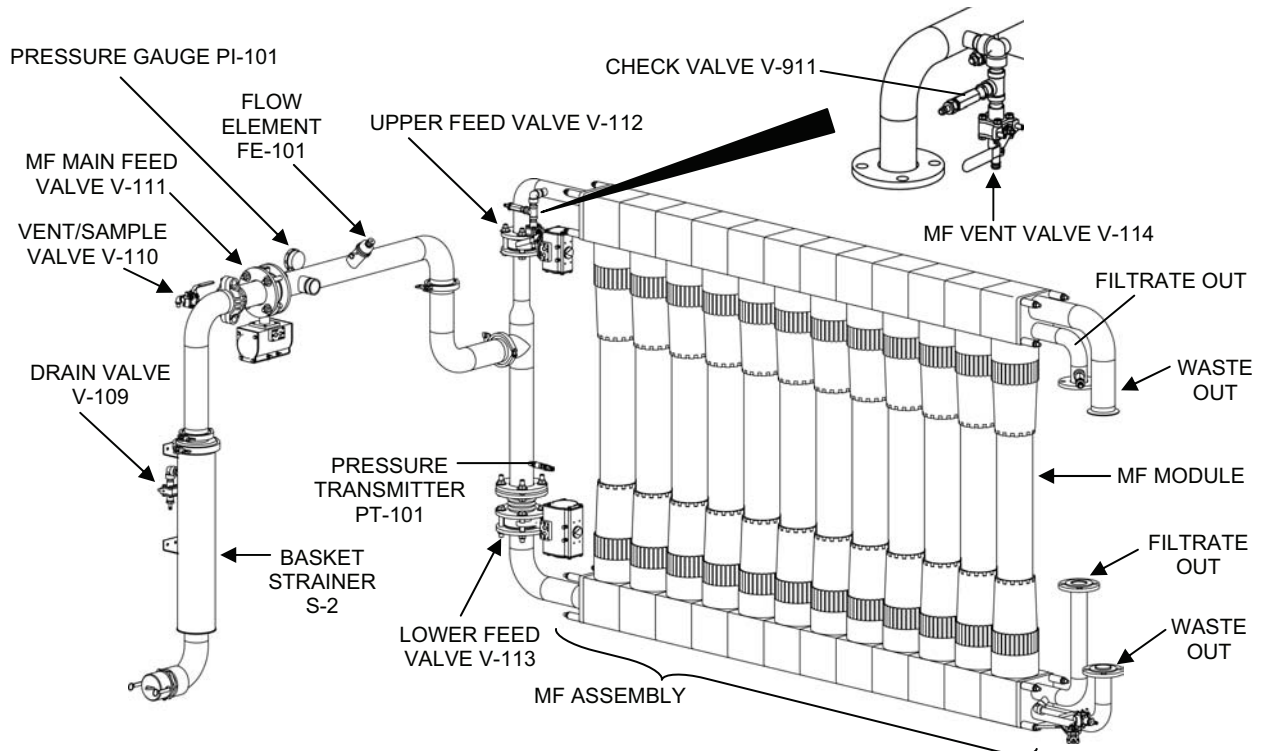

Figure 9. MF System: Strainer S-2 to MF Modules.
- **Two 3-in., 10-ft. long discharge hose.** Connect the MF Feed Pump P-3 discharge to the TWPS skid connection at Basket Strainer S-2 (see Figure 9 for Basket Strainer S-2).
MF System: Strainer S-2 to MF Modules (see Figure 9)
- **Pressure Gauge PI-101.** Measures pressure of the MF feed supplied to the micro-filter (MF) assembly. The pressure indication is for operator reference.
- **Flow Element FE-101 and Flow Transmitter FT-101.** (FT-101 is not shown in Figure 9. It is located in the instrument/solenoid panel box shown in Figure 23). FE-101 and FT-101 measure the MF flow (feed flow to the MF assembly when filtering, backwash flow to the MF assembly during backwash). This flow is displayed at the operator control panel (OCP).
- **Micro-Filtration (MF) Assembly.** Consists of 12 parallel filter modules, MF-1 through MF-12, that remove suspended solids and microorganisms from the MF feed water. Each filter module contains a filter element that is composed of a bundle of hollow, porous fibers. MF feed water enters the MF assembly, passes through the porous wall of each fiber, and exits the hollow core of each fiber as filtrate (filtered MF feed water). The suspended solids and microorganisms that accumulate on the fibers are removed from the fibers during regular automatic backwashes.
- **Pressure Transmitter PT-102.** Measures filtrate pressure. The difference between the feed pressure measured by PT-101 (Figure 9) and the filtrate pressure is the trans-membrane pressure (TMP; pressure drop across the membranes, or filter element fibers, of the MF assembly). TMP (pressure drop) is displayed at the operator control panel (OCP) and is an indication of how porous (or how clogged) the fibers are. A high TMP indicates that the MF fibers are becoming clogged with material and need to be cleaned.
- **MF Filtrate Pressure Gauge PI-201.** Measures the filtrate pressure in the line between the micro-filter (MF) assembly and the RO feed tank. The pressure indication is for operator reference. The operator can compare the PI-101 feed pressure gauge reading with the PI-201 filtrate pressure gauge reading as a manual check against the TMP that is measured automatically by Pressure Transmitters PT-101 and PT-102.